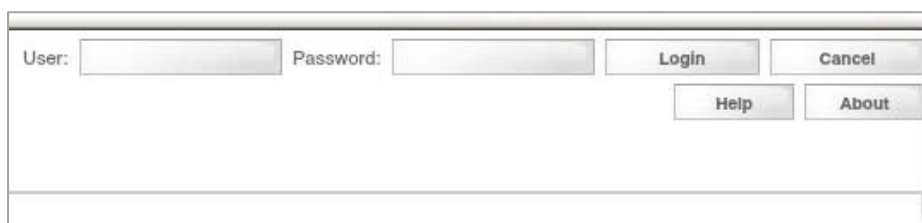
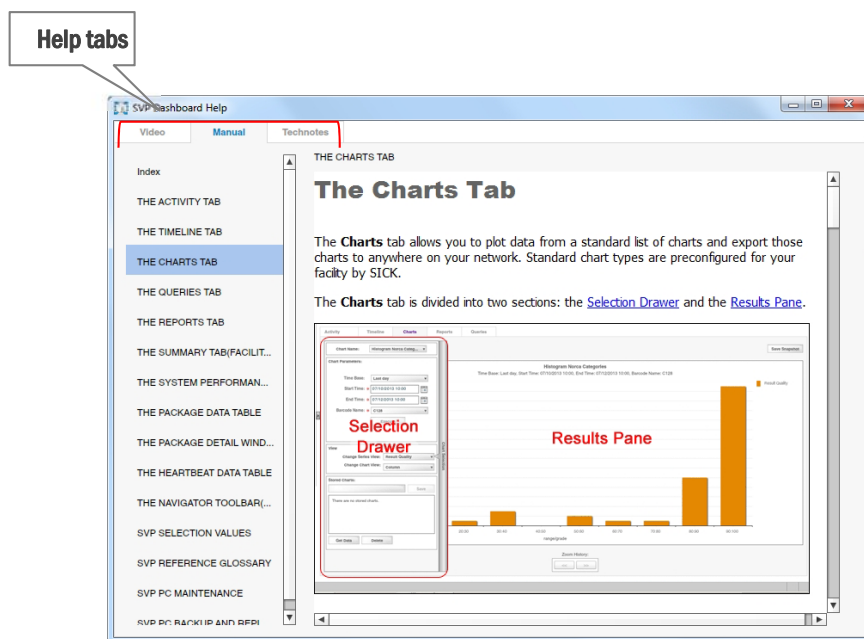

Figure 2-8: Login Fields
Figure 2-9: SVP Dashboard Help
1. In the Package Analytics header area (Figure 2-9), click **[change]**. The *Guest* user is logged out, and log in fields appear.
- In the Package Analytics dashboard header area (Figure 2-8) click **Help**. The **SVP Dashboard Help** dialog shown in Figure 2-9 opens.
- In the Package Analytics dashboard header area (Figure 2-9), click **About** to display Package Analytics system information.